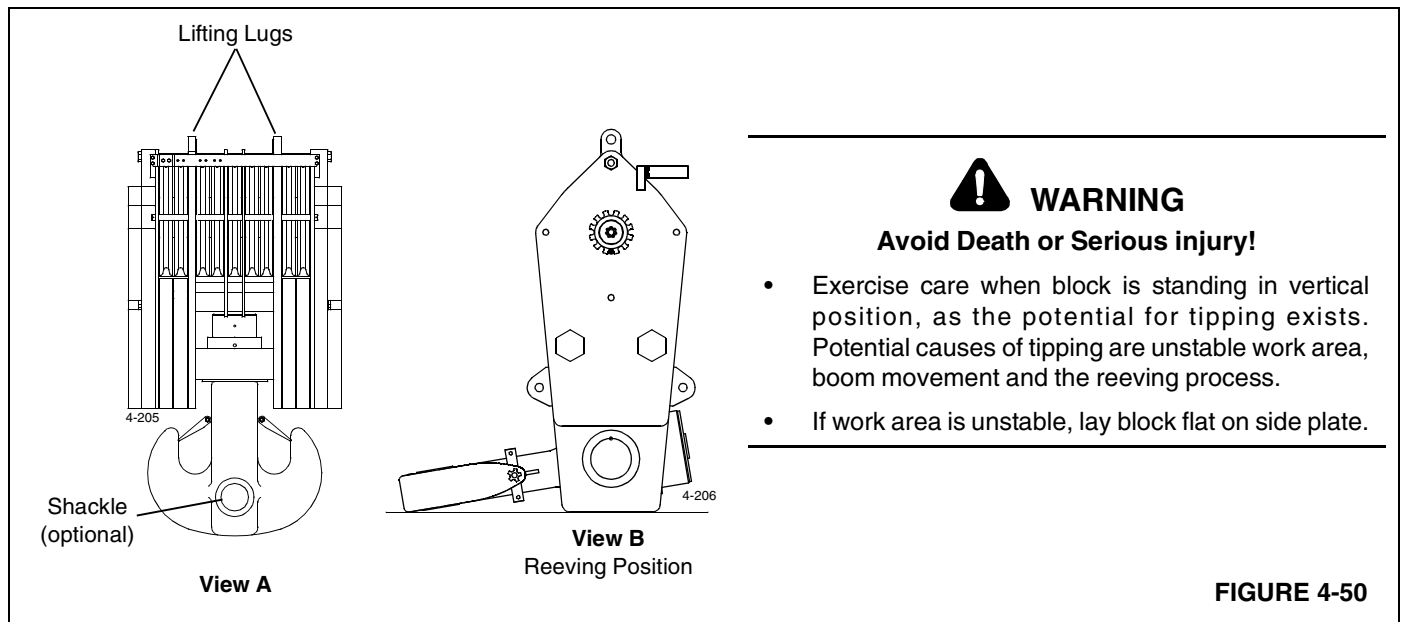

FIGURE 4-50
- Exercise care when block is standing in vertical position (Figure 4-50), as the potential for tipping exists. Potential causes of tipping are unstable work area, boom movement and the reeving process.
Each load block as two lifting lugs as shown in Figure 4-50, View A.
The load blocks can be stood up for reeving as shown in Figure 4-50, View B.